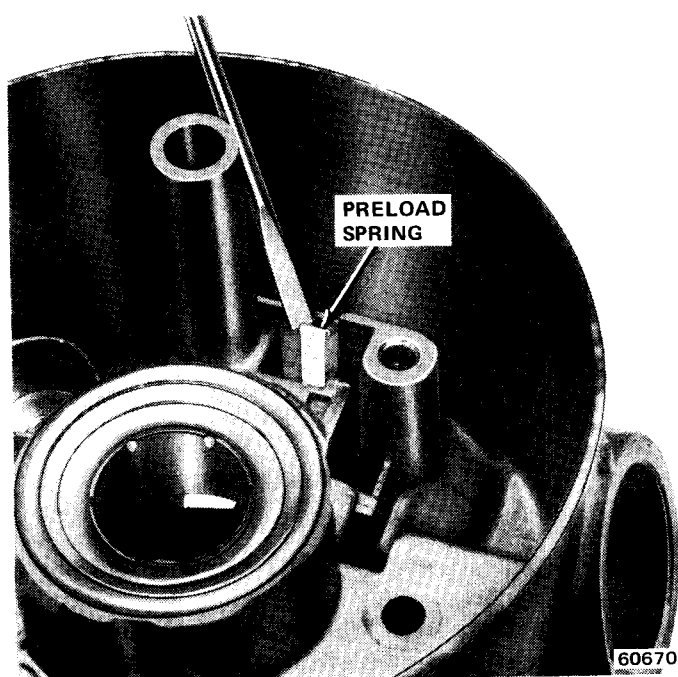

Fig. 11-16 Removing-Installing Preload Spring
(20) Remove rack preload spring (fig. 11-16).
(2) Install rack preload spring (fig. 11-16). Bowed side of spring must bear against lock rack when rack is installed.